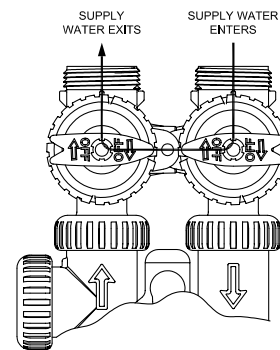

figure 3
1. With all plumbing connections made, make sure the bypass is in the "bypass" position. (See figure 3). Slowly turn on the water supply valve until lines are pressurized. At nearby faucet, turn on cold water and let it run for 2 – 3 minutes to flush debris from the plumbing. Check for water leaks, repair any leaks immediately before proceeding.